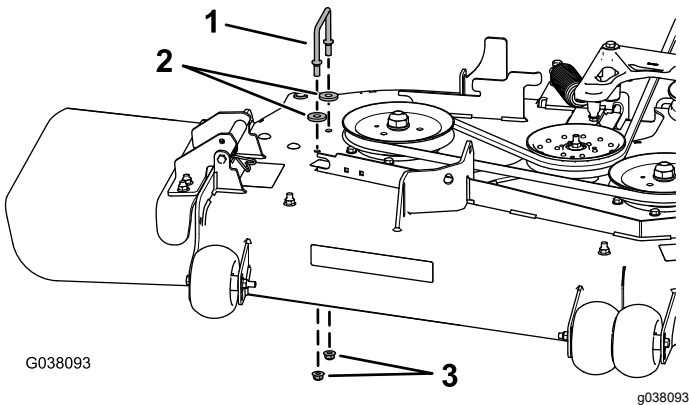

Figure 20
3. Remove the right belt-cover bracket, 2 washers, and 2 flange nuts from the mower deck (Figure 20).